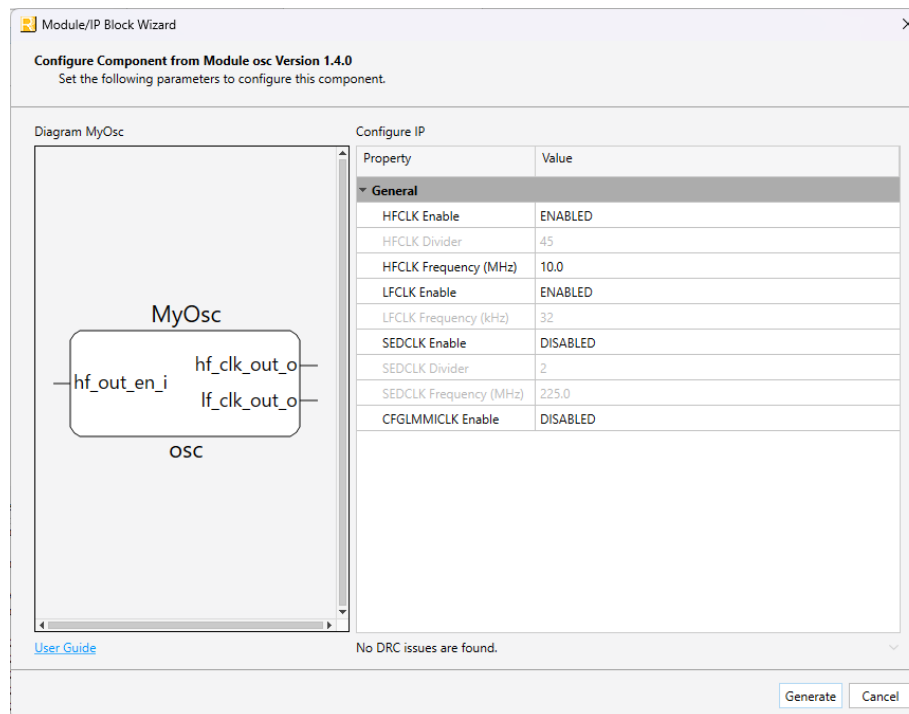

Figure 13: Configuration Block of Module OSC
5. In the dialog box, set the following like in Figure 13.